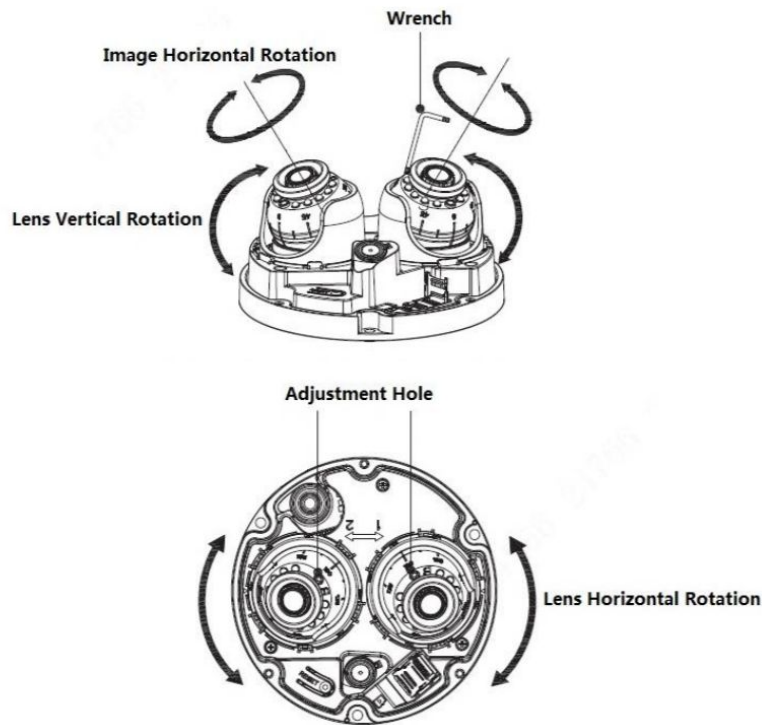

Figure 2-2
**Step 6:** Adjusting Lens angle: See Figure 2-2 to adjust lens angle.